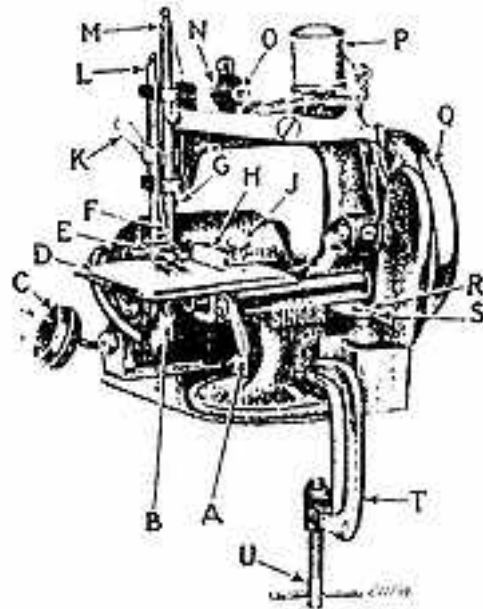
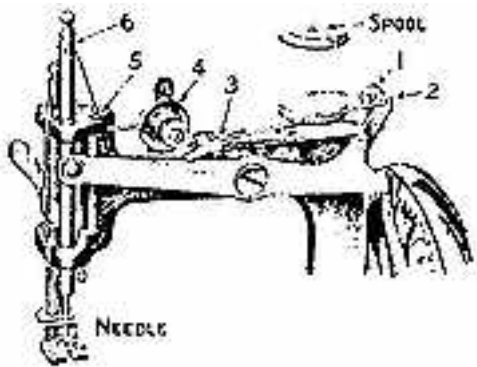

FIG. 2
FIG. 4 THREADING THE NEEDLE
The clamp (T, Fig. 2) is furnished for fastening the machine to a table or desk, if desired. The wooden handle and the two screws also furnished with the machine, are not used unless the motor is removed, for operation by hand.
Press down on the switch (R, Fig. 2) and the lever (S) at the same time; this will start the motor. Release the lever, and the rubber roller back of the hand wheel will touch the rim of the wheel and drive the machine.
Turn the hand wheel (Q, Fig. 2) over from you until the needle bar (M, Fig. 2) moves up to its highest point. With the screwdriver, loosen the set screw (G Fig. 2) in the lower end of the needle bar, take out the old needle and put the new needle up into the bar as far as it will go, with its flat side toward the right and the long groove in the needle at the left, then firmly tighten the set screw (G).
(SEE FIG. 4)
Raise the presser foot (E Fig 2) by turning up the presser bar lifter (K, Fig 2). Place the material beneath the presser foot and lower the presser foot. Lay the forefinger of the left hand gently on the end of the thread and turn the hand wheel (Q, Fig. 2) over from you in the direction indicated by the two arrows on the hand wheel, until the first stitch is made. Then place the end of the thread back under the presser foot and commence to sew.
The length of stitch is regulated by the same lever (A, Fig. 2) under the cloth plate. To make a longer stitch, move this lever away from you. To make a shorter stitch, move the lever toward you.
The tension on the thread is automatic and seldom requires changing. When the needle is at its highest point, the nipper lever (3, Fig. 4) is raised and the tension on the thread is released so as to allow the needle bar to draw off sufficient thread for the next stitch. If the stitches are so tight that they pucker the material, loosen the tension by turning to the left the thumb nut (O, Fig. 2) at the front of the tension discs. If the stitch is too loose, tighten the tension by turning the thumb nut to the right.
To guide the work accurately when sewing close to the edge of the goods, the cloth guide (H, Fig. 2) should be used. Fasten the cloth guide to the cloth plate of the machine by means of the clamping thumb screw (J, Fig. 2), inserting the thumb screw into the screw hole in the cloth plate. The cloth guide can be adjusted to bring the edge of the goods as close to the line of stitching as desired. If desired, the cloth guide can be removed from the machine.